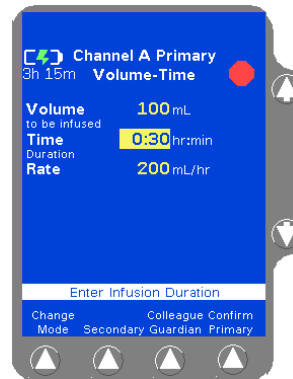

Figure 11-5 Volume-Time Programming Screen
3. Highlight **Primary Volume-Time**, then press the **Select** soft key. The Volume-Time Programming screen is displayed (Figure 11-5).
3. Highlight **Secondary Volume-Time**, then press the **Select** soft key. The Volume-Time Programming screen is displayed (Figure 11-5).